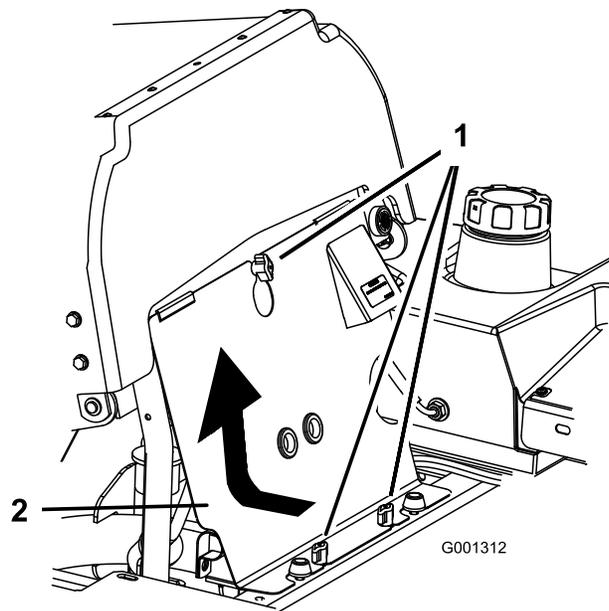

Figure 63
1. Tilt the seat forward and remove the front engine panel (Figure 63).